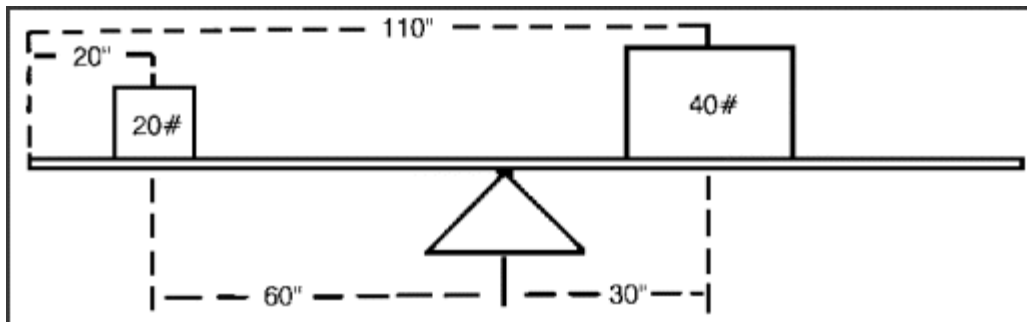

Figure 17-5. Computing aircraft and load CG
b. Figure 17-5 helps illustrate the procedure used in computing aircraft and load CG. The reference line (same as aircraft RDL) is at the end of the board. For instance—